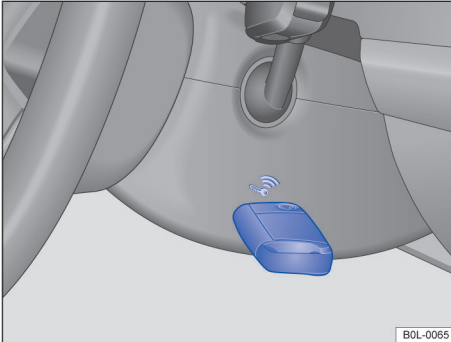

Fig. 85 On the right side of the steering column: emergency start function in vehicle with Keyless Access
- Hold the vehicle key to the right of the steering column trim directly after pressing the starter button → Fig. 85.